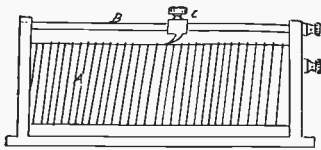

Fig. 30
**I**N order to receive and hear sounds sent from transmitting stations by radio-phones clearly and without interference or confusion, a device of some sort is required which will cut out all waves save those desired. This is known as "tuning" and the instruments or appliances used to accomplish it are called "tuners." There are now a great many different devices for tuning, such as tuning-coils, loose couplers, vario-couplers, variometers, variable condensers, etc. Of these, all but the variable condensers (which see) are coils of various types, the simplest, but by no means the most efficient, being the simple tuning-coils. These consist of a coil of bare wire wound about a core or cylinder of wood, fibre or pasteboard and provided with sliding contacts as shown in *Fig. 30*, in which *A* is the coil, *B*, the slide rod and *C*, the slider.